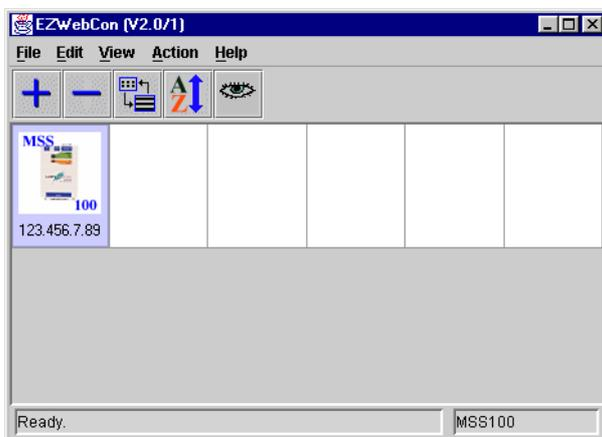

Figure 11 - LAN-100 Ready for Configuration Management
15. Repeat this Section beginning with Step 2 for each LAN-100 that will be connected to the access control network. As each LAN-100 is assigned an address, it will appear in the EZWebCon program window as shown in Figure 11.
1. Locate and run the EZWebCon program. Either use the Programs > EZWebCon > EZWebCon option from the operating system  button or use Windows Explorer to navigate and double-click on the Program Files > Lantronix > EZWebCon > EZWebCon.exe program listing. The EZWebCon window appears with any available LAN-100 units displayed (see Figure 11 on page 10).